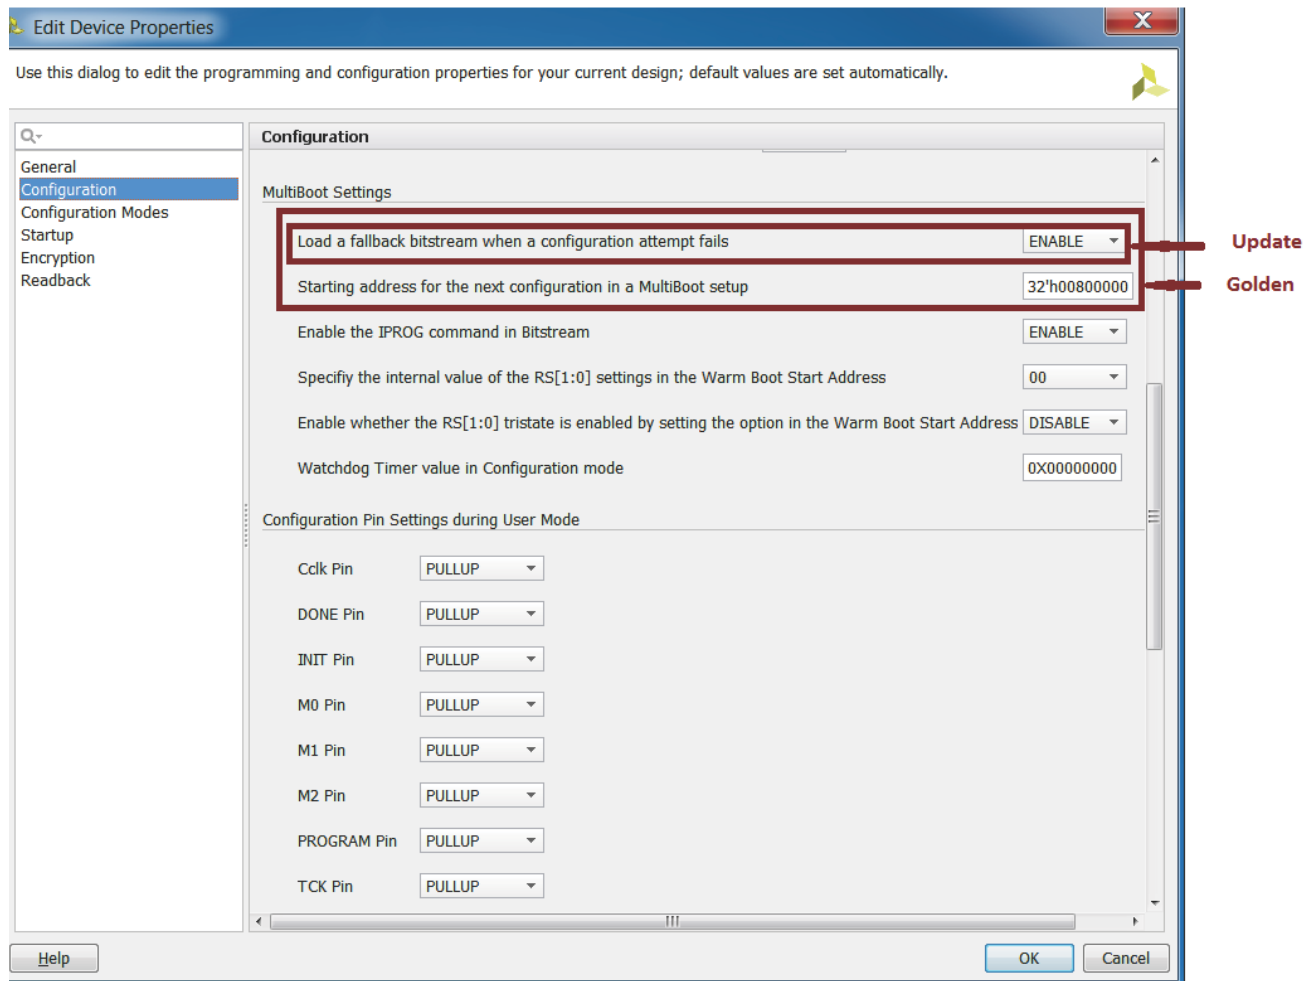

Figure 5: Configuration Options to Generate Golden and Update Bitstreams
- Under **Edit Device Properties/Configuration/MultiBoot Settings**, ensure that *Load a Fallback bitstream when a configuration attempt fails* is set to **ENABLE** (for both the golden and update bitstreams), and that *Starting address for the next configuration in a MultiBoot setup* (golden bitstream only) is set, as shown in Figure 5.